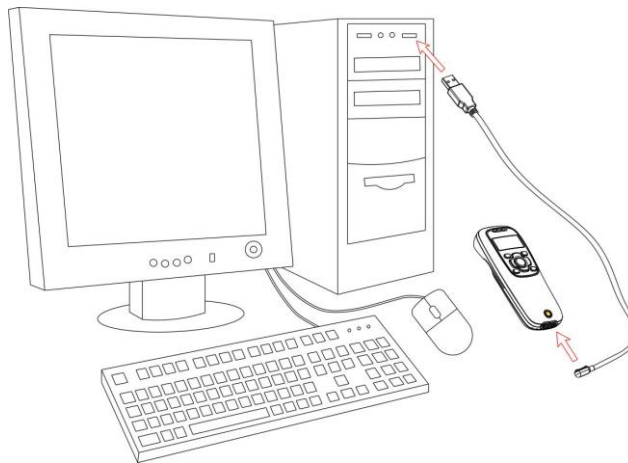

Figure 2-1 Diagram of connecting the terminal to PC
- 1) Refer to Figure 2-1, plug one end of the USB cable to the terminal. Plug the other end into the USB port of the computer.